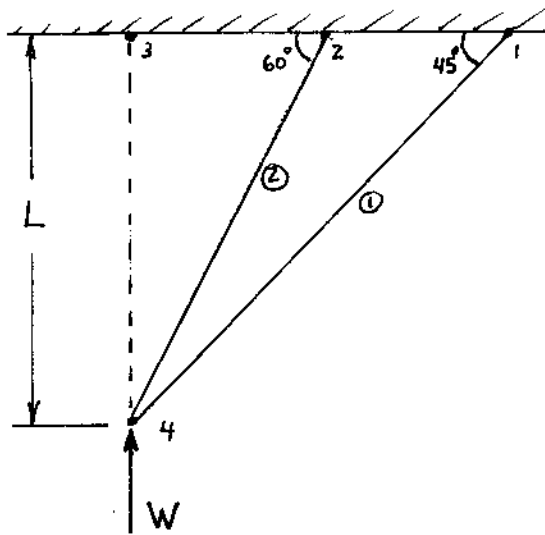

FIGURE 1
- 1) The two member frame shown in Figure 1 is subjected to a vertical force  $W$  at node 4. Given that  $E$  and  $A$  are the same for both members,